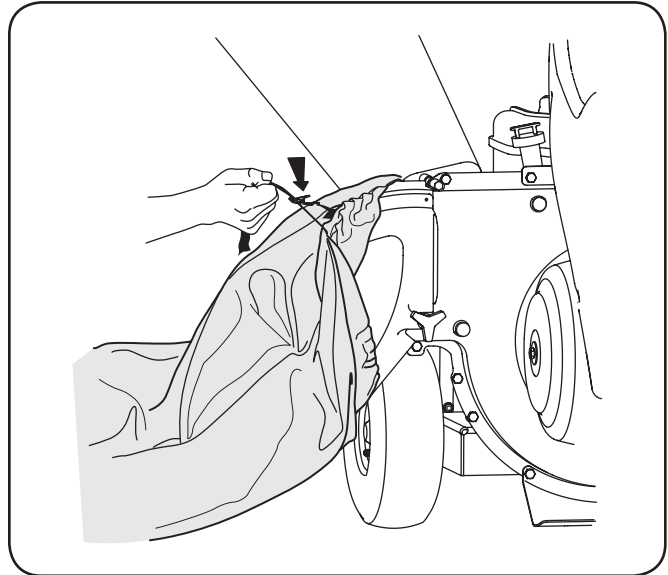

Figure 5-3
2. Un-clip drawstring and loosen bag from chute deflector opening. See Figure 5-3.